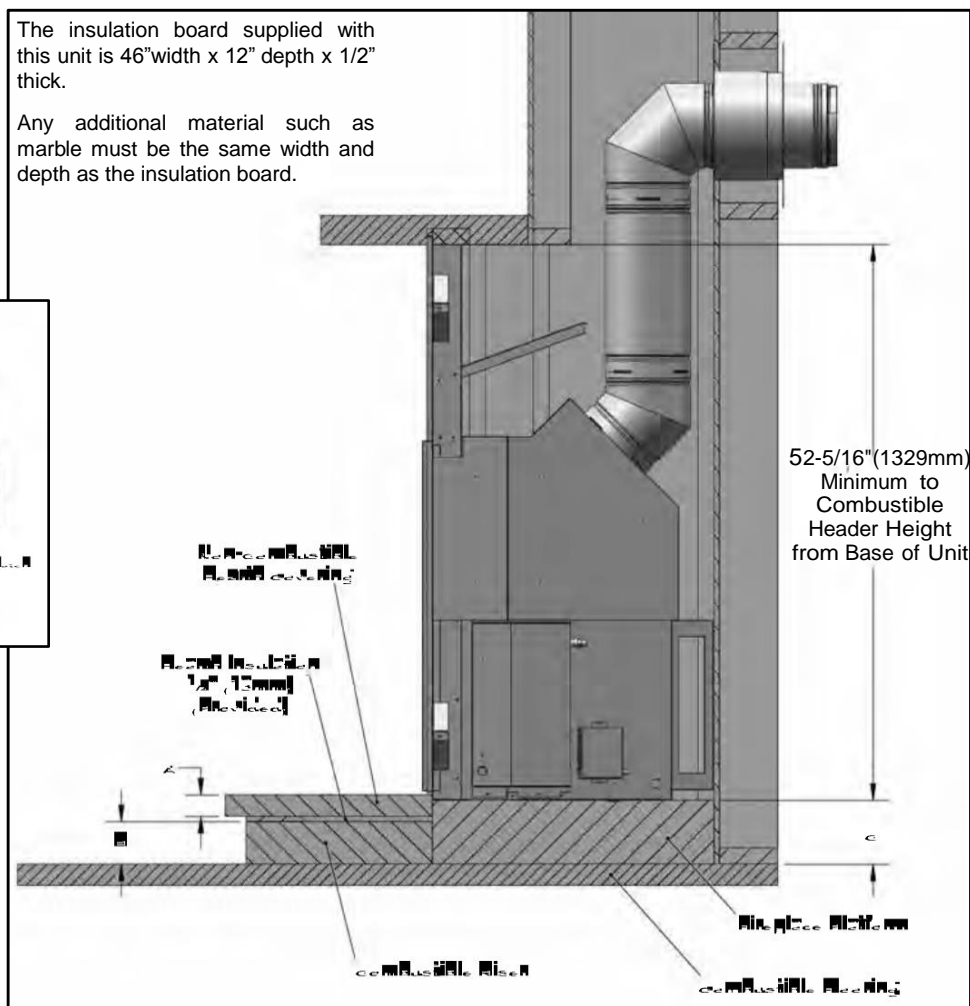

Figure 14. Typical Framing for a Raised Hearth - Detailed.
Figure 14 shows a raised hearth made of a wooden construction hearth riser (B), covered with the insulation board provided and then covered with non-combustible slate (A). The thickness of the riser (B) is 4" (102mm). The thickness of the slate (A) is 2" (52mm). $A+B=C$ which is 6" (152mm). In summary, the fireplace must be raised by the same thickness of any material added in front of the fireplace.